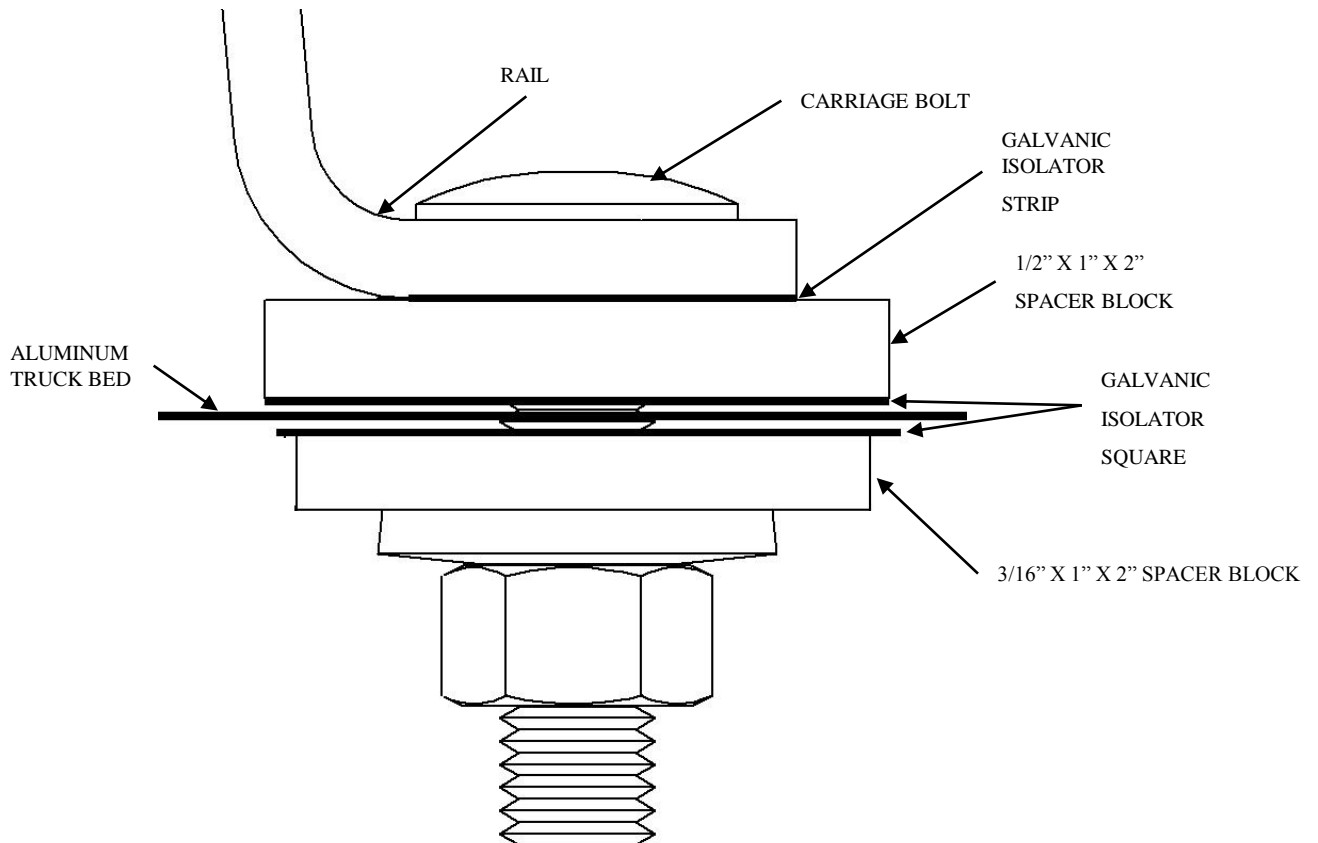

**Figure 3**
2. Place the galvanic isolator strips (14) on the bottom surface of each rail to protect aluminum truck bed as shown.(See Figure 3)
6. Loosely install the frame brackets (18) & (19) using the appropriate hardware and hand tighten. (See Figure 3)
- 1.) Place a 5/8" flat washer (8) over each of the 5/8-11 x 4-1/4" hex head bolts (6).
- 2.) Position the frame brackets (18) & (19) over the frame mounting holes, and route the 5/8-11 x 4-1/4" hex bolt (6) through the frame bracket and vehicle frame from the outside of the frame to the inside of the frame as shown. (See Figure 3).
- 3.) Install the 5/8 conical washer (9) and then the 5/8-11 nut (7) over the 5/8-11 x 4.25 hex head bolt (6) and hand tighten.
7. Check that the 1/8" drilled holes from step 4 align with the slots of the frame bracket (18) & (19). If holes do not align, adjust the frame brackets as needed. If this does not align the holes, restart the installation at step 4. When the holes align with the rails and brackets, remove the rails and brackets and proceed to step 8.
10. **Place the tube spacer (20) in the center rail bolt location in Row 3. (See Figure 3)**
12. Install the rear rail attachment bolts as shown in figure (3).Ensure that the galvanic isolator patches (13)are installed on the U-shaped spacers and spacer blocks as shown. (See figures 4 & 5) Attach the 1/2" conical washers (16) and hex nuts (15) on the bottom side of the frame bracket (18) & (19) , as per figure 3, and tighten snug to keep the mounting rail from moving. The outer bolts in row 3 of figure 2 will utilize 1/2-13 x 2 hex head bolts (1) on the top of the rail, with a galvanic isolator patch (13), 1/2 x 1 x 2 spacer block (3), and a nut handle (2). **For the center bolt in row 3, which goes through the truck bed cross member/sill/hat section, route the 1/2-13 x 4.50 Carriage bolt (21) through the rail and tube spacer (20), and secure using the .250 x 1.5 x 3 spacer (5), 1/2 conical washer (16), and 1/2-13 nut (15). For the center rail bolt in row 4 of rail attachment bolts, route a 1/2-13 x 2.00 Carriage Bolt (17) though the rail and bed, then secure using a .250 x 1.5 x 3.00 spacer (5), 1/2 " conical washer (16) and 1/2-13 nut (15).**
14. Mark and center punch the holes in the front mounting rail as per figure 3. Move the front mounting rail and the frame mounting brackets out of the way, and drill with a 1/8" drill bit.